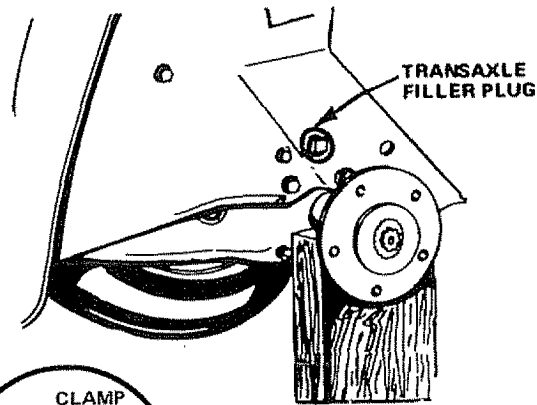

FIGURE 47
- a. Remove Filler Plug (Fig. 47) from Transaxle. Oil Level should be even with Filler Plug threads. Add S.A.E. 30 (SC, SD OR SE) Motor Oil if necessary.